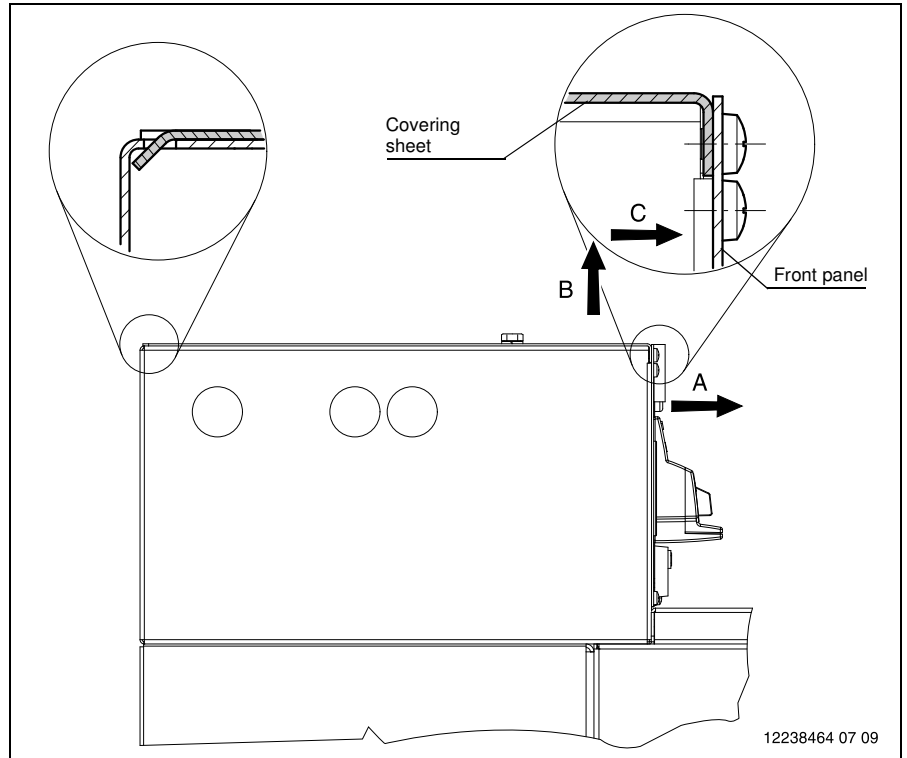

Fig. 22
- Unscrew all self-tapping screws (Fig. 22) from the upper section of the front panel. Depending on the GAE630 panel type, the number of screws may be different.
- Pull the front panel a few millimetres forward (Fig. 22/A).
- Lift the cover plate up from behind the front panel (Fig. 22/B).
- Pull the cover plate out of the openings of the frame (Fig. 22/C).